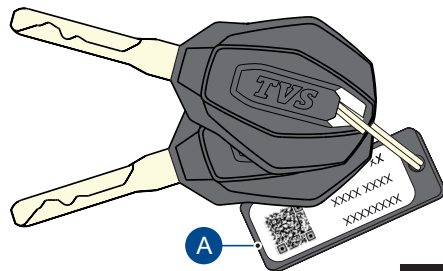

Fig. 08
Your TVS Apache RTR 310 comes with a pair of identical control keys. These keys are to operate ignition cum steering lock, fuel tank cap and seat lock. A sticker ID (A) attached with keys has the identification number of keys. Please note down the identification number below for future reference. (ref. Fig. 08).